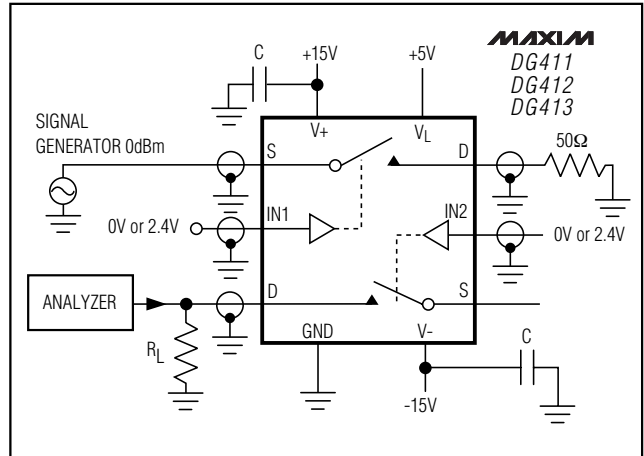

Figure 6. Crosstalk
**Note 6:** Between any two switches. See Figure 6.